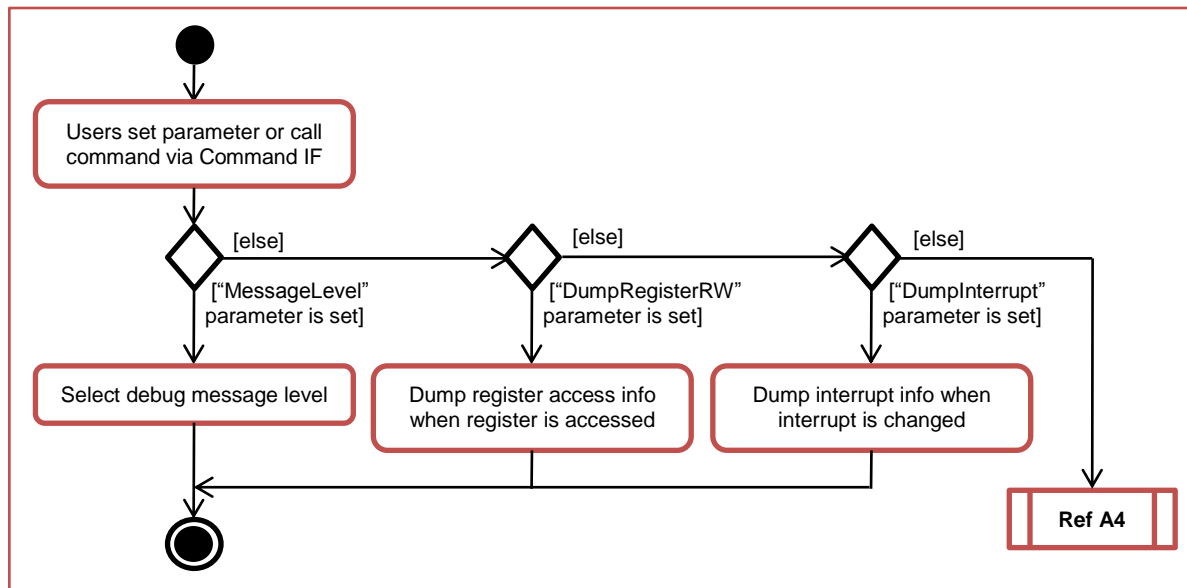
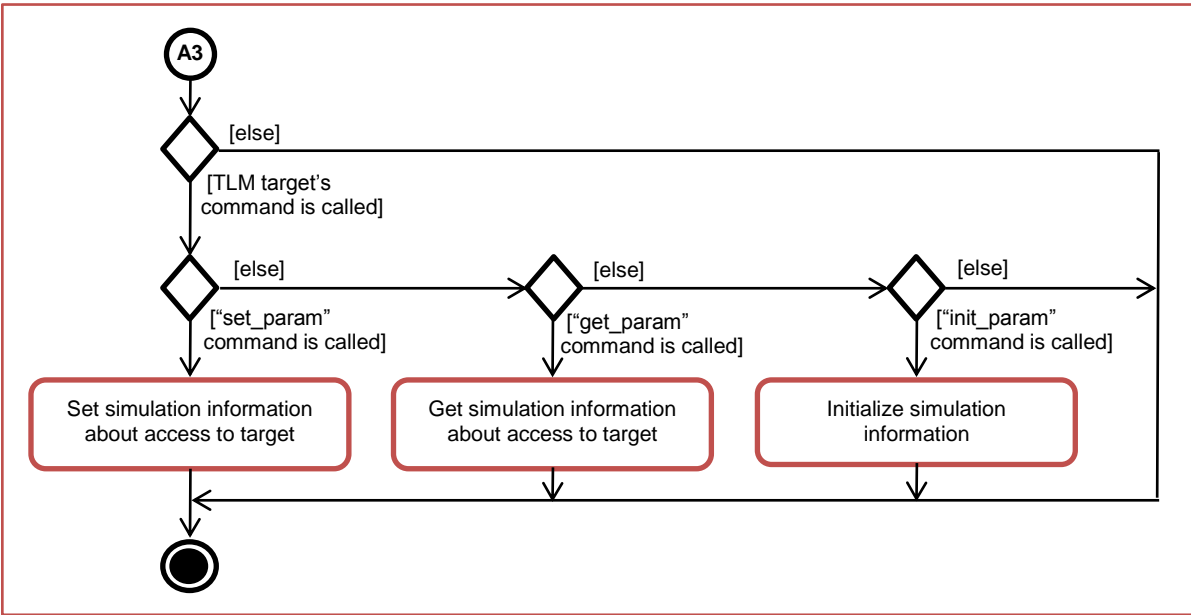

Figure 7.5: Command/parameter configuration operation flow (1/5)
Figure 7.9: Command/parameter configuration operation flow (5/5)
- Users set/call the parameter/command of model via the Command I/F. Setting/calling operation is described as Figure 7.5 -> Figure 7.9.